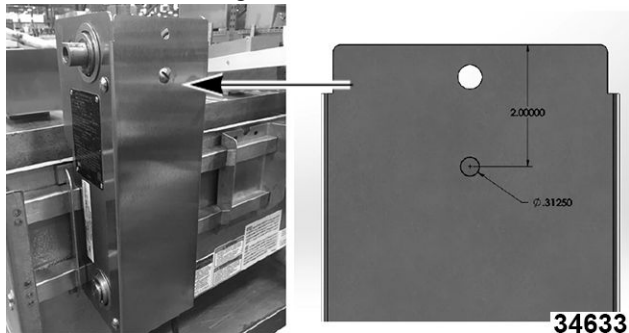

Fig. 20
5. Drill 5/16" inch hole 2" inches from edge of cover as shown in Fig. 20.